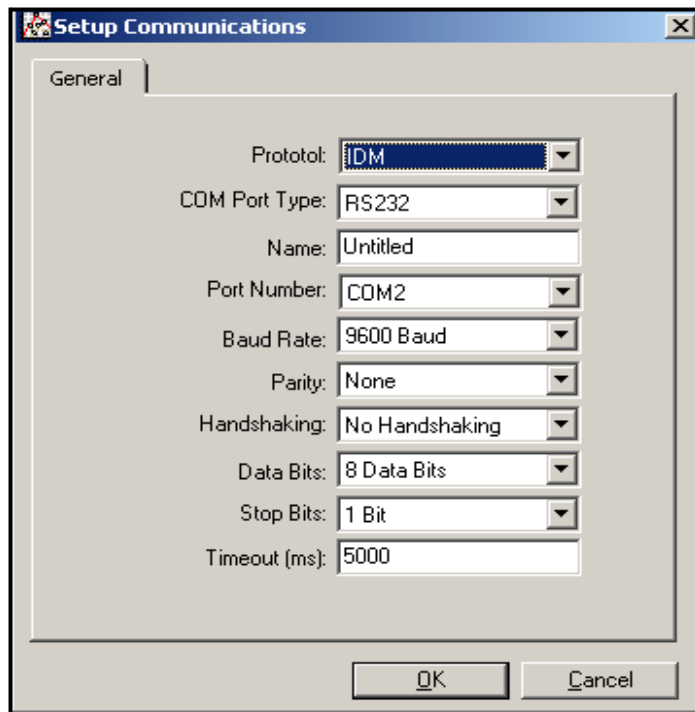

Figure 18: Setup Communications Screen
4. Click on the “Communications Port” option to select it. The *Setup Communications* screen appears similar to Figure 18 below.